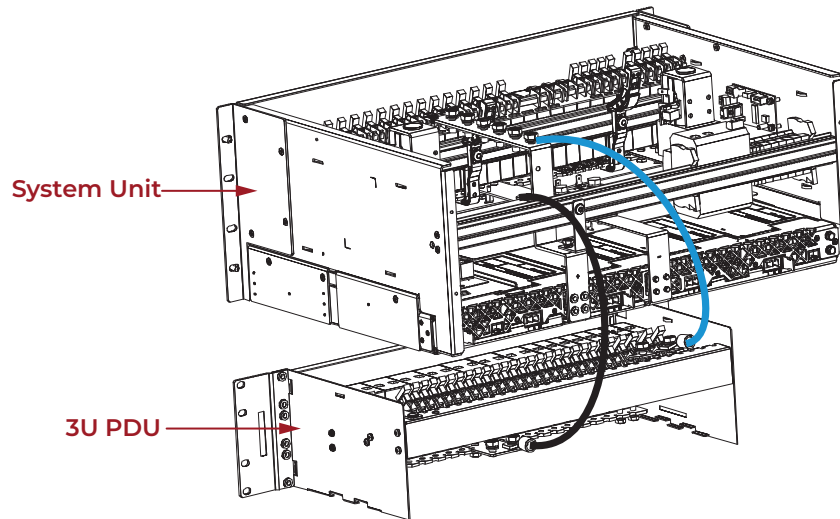

Figure 4-6 3U PDU Bus Bar Connections
2. Connect the DC parallel cable lugs to the positive and negative bus bars with two M8 x 20mm screws (Figure 4-6).